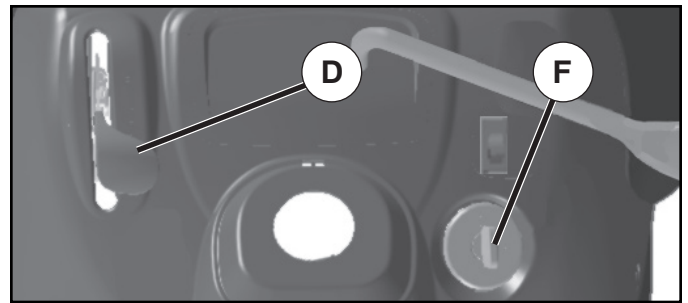

Fig. 7
TO USE THROTTLE CONTROL (D) (See Fig. 7)